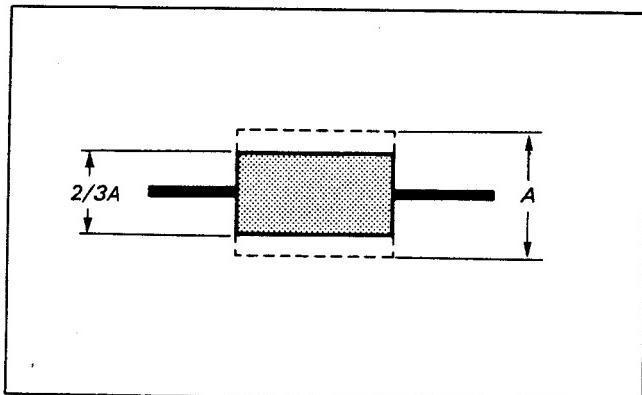

Fig. 4-17
- 2) Set the SEL switch of the track shift & monitor jig to ON, and turn track shift knob until the RF waveform amplitude is $2/3$. (Fig. 4-17)